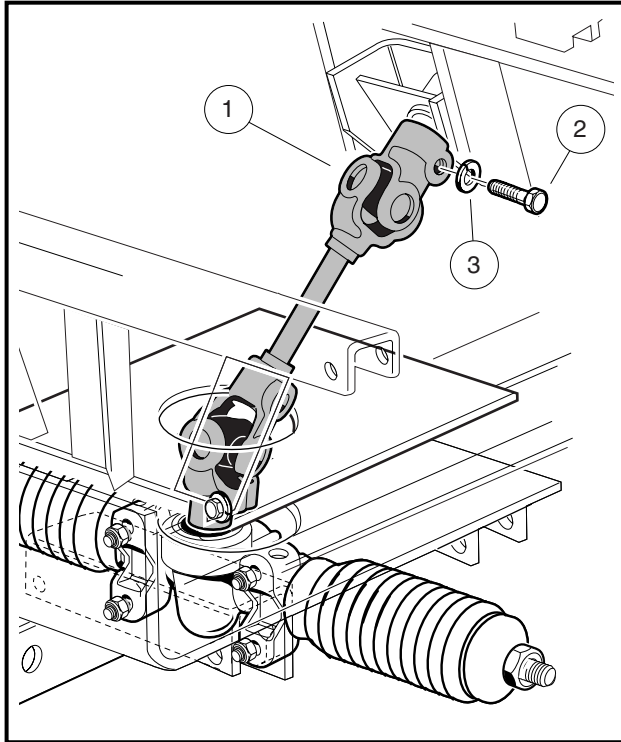

Figure 7-4 Steering Joint Assembly
4. Install bolt (2) and lock washer (3) on the upper steering joint and finger-tighten (**Figure 7-4, Page 7-4**).